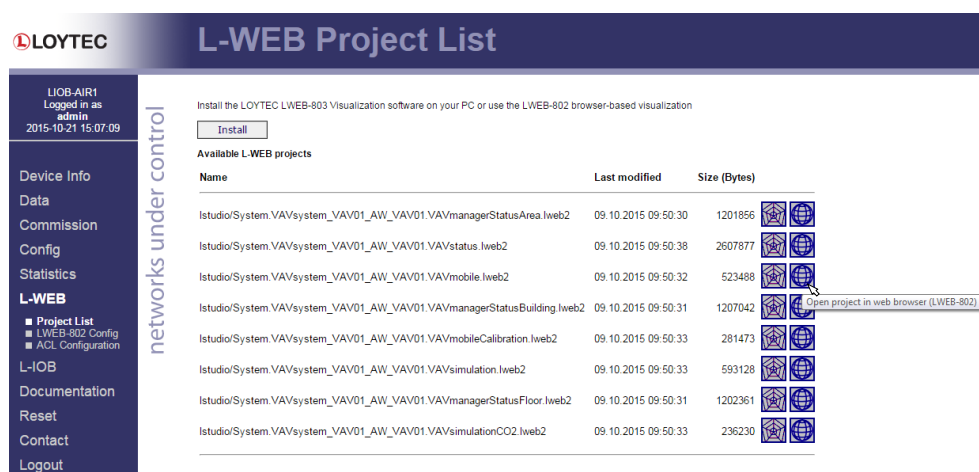

Figure 11: L-WEB Project List
3. Open the desired project in the web browser as shown in Figure 11.